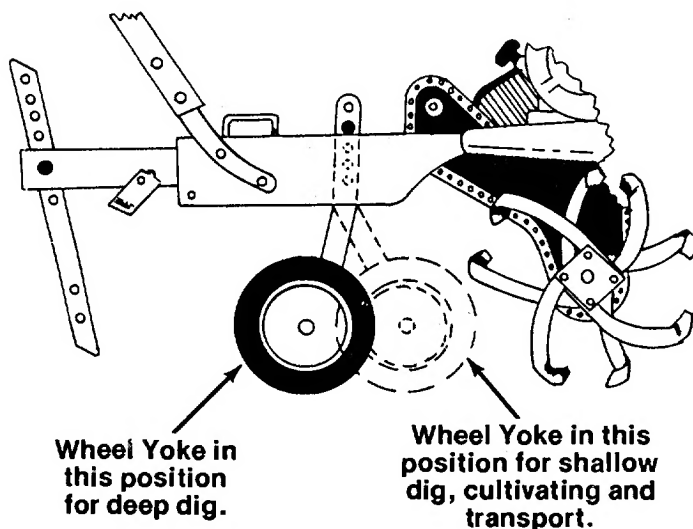

FIGURE 18.
1. Wheel Yoke Adjustment: By placing wheel yoke so that the wheels are forward, (nearest point between wheels and tines). See figure 18. This position will allow for shallow tilling, cultivating, transport and also the forward speed will increase. By turning the wheel yoke around (farthest point between wheels and tines) this will allow for deep tilling, and the forward speed will decrease. See figure 18.